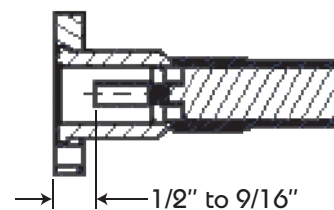

Figure 5. Check the cutback dimension.
Step 5. Check the cutback dimension (figure 5).